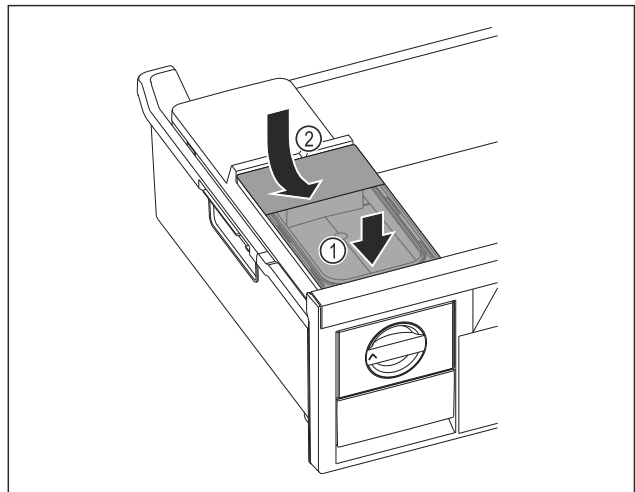

Fig. 110
- ▶ Position the water tank at the front. Fig. 110 (1)
- ▶ Lower the water tank at the rear. Fig. 110 (2)